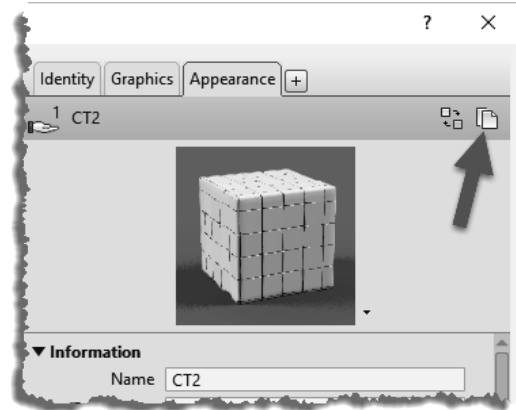

FIGURE 4-4.12 Duplicate asset icon
43. On the *Appearance* tab, click the “Duplicate this asset” icon (Figure 4-4.12).
45. Now switch back to *Material* **CT2** and rename the *Appearance* asset CT2(1) to **CT2**.